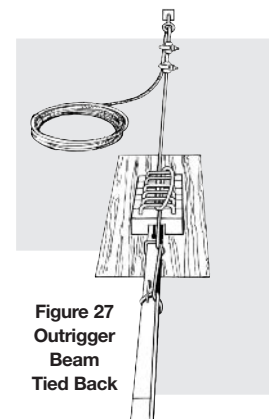

Figure 27
- tied back to adequate anchorage as shown in Figure 27